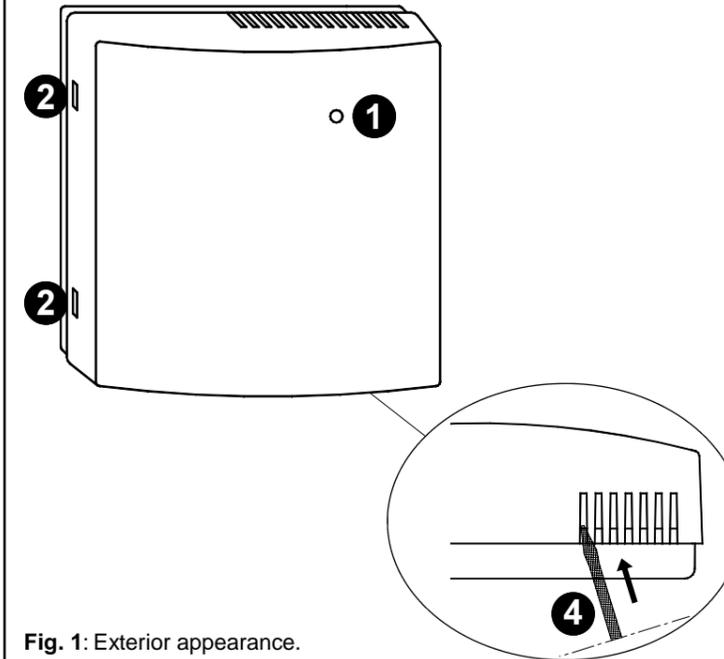

Fig. 1: Exterior appearance.
On the front panel of the device, shown in Fig. 1, there is one LED ①, which gives information regarding the correct power supply, the output channel status and its signal strength:
- Switch on the receiver: the LED ① blinks for a few seconds during the initialisation phase.
- Press the self-learning button for a second by inserting a small screwdriver in the slot visible in ④ of Fig.1. This is how the self-learning procedure is enabled: the receiver's LED will blink quickly yellow.